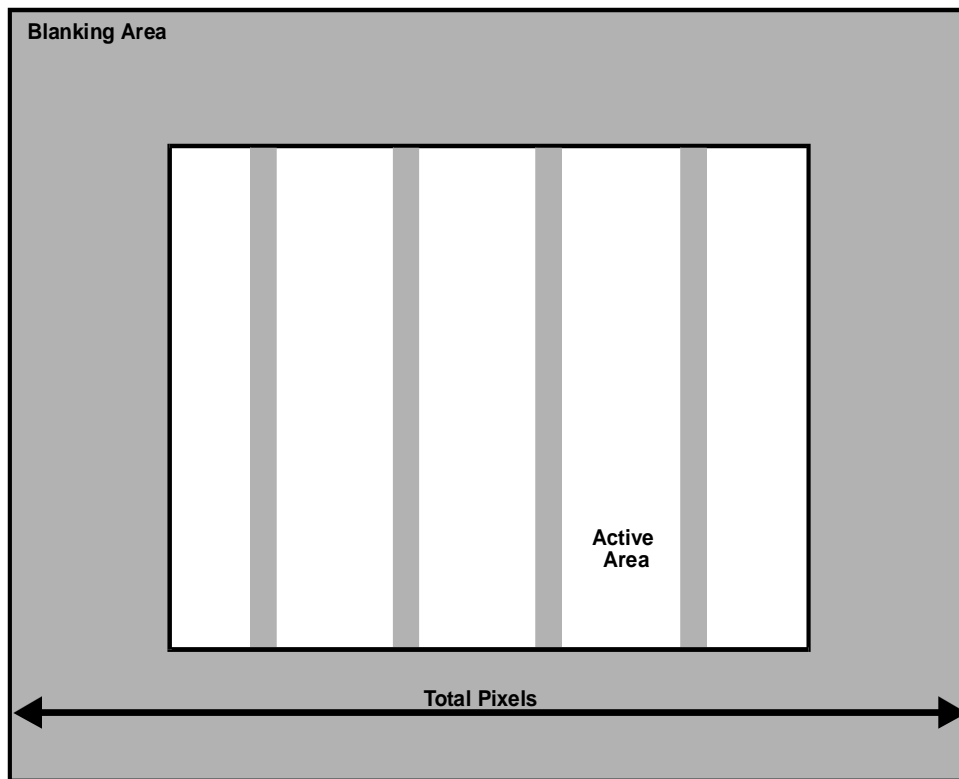

Figure 4. Incorrect Total Pixels
In Figure 4, the total pixels are adjusted incorrectly. There are several ways to set the total pixels. It is best to set the total pixels according to the input signal specifications. Otherwise, if the input pixel clock is known, the input total pixels may be calculated from the formula shown below. The input horizontal scan rate, as measured by the **IN1408**, can be found in the Advanced Menu Section under System Info (see page 23).
Multiplying the input active pixels by 1.3 may approximate the input total pixels. Also, the input total pixels may be adjusted to minimize any faint vertical lines that may be seen within the image, as shown below in Figure 4.
4. Set input total pixels to minimize faint vertical lines (see Figure 4).